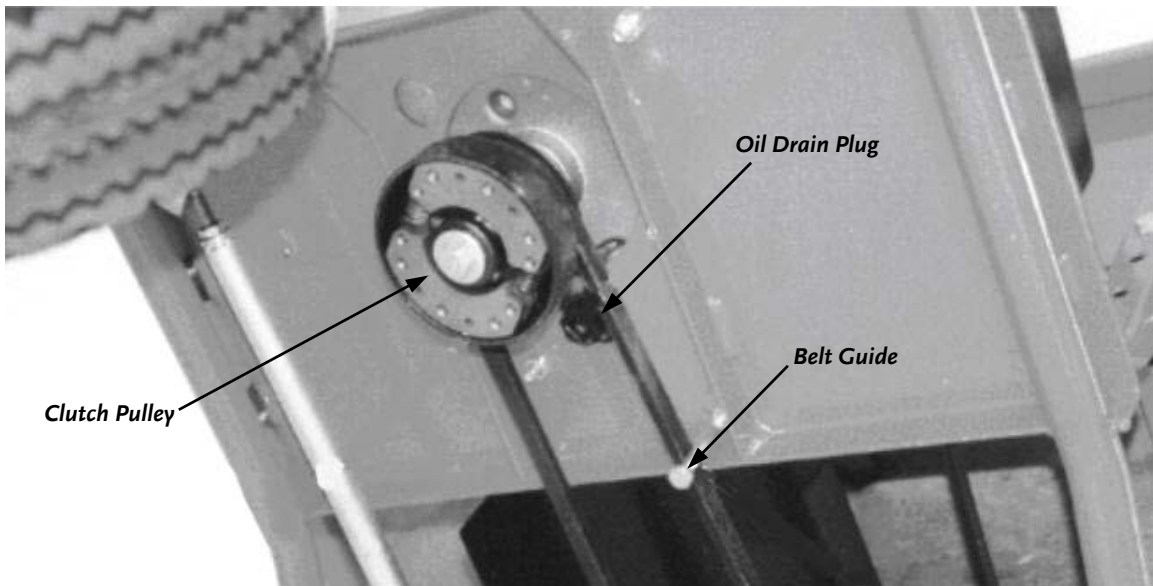

Figure 14
- SAE 30 High Detergent (HD) Oil (for winter use, use SAE 5W – 30W)
1. Using a 3/8" Ratchet and Extension, remove the Oil Drain Plug from the bottom of the Engine (**Figure 14**) and drain the oil.
6. Remove the Belt from the Clutch Pulley under the Engine (**Figure 14** on page 23).
7. Install the new Belt on the Clutch Pulley first, then the Transmission Pulley and then the Idler Pulley. Make sure the new Belt is **INSIDE** the Belt Guide near the Clutch Pulley (**Figure 14** on page 23).